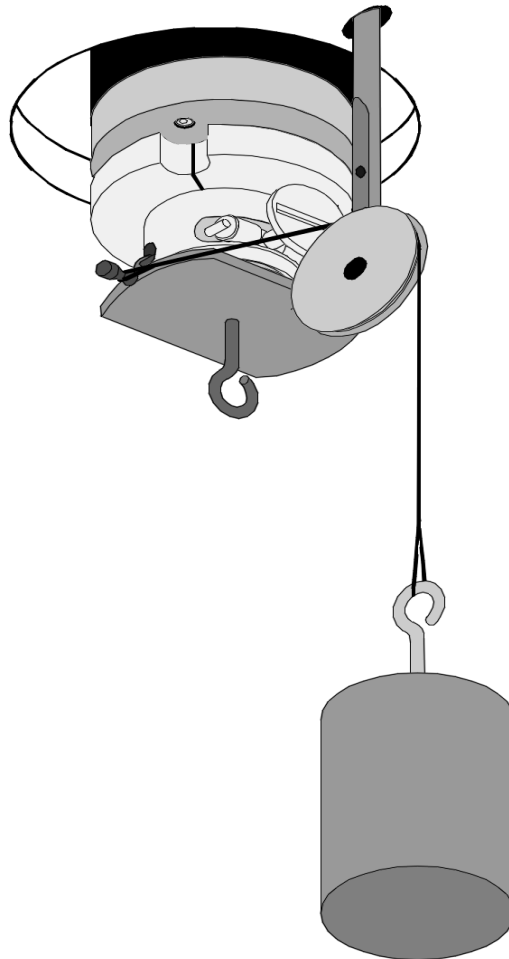

Figure 5-5. Applying Torque Using the Calibration Weight
11. Apply a calibrated torque (Figure 5-5), depending on your transducer, as follows: